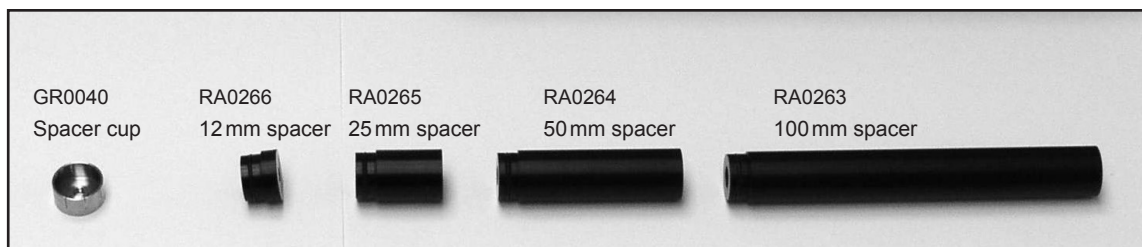

Fig. 1.5 Showing the various spacers and the spacer cup supplied with the Type 50AI
- Four solid spacers of various lengths and a spacer cup (see Fig. 1.5)